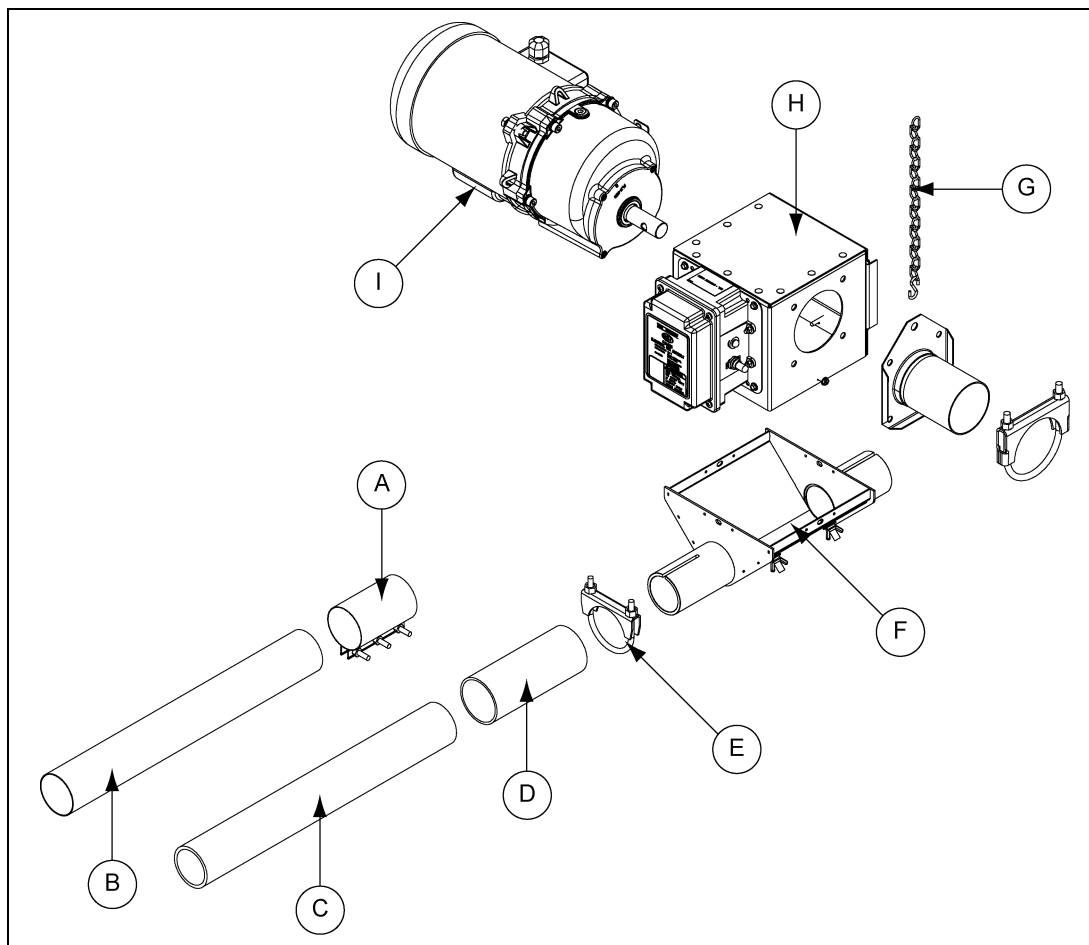

Figure 9B Fill Hopper Installation
1. Attach fill hopper to the Flex-Flo control unit using #10 x 1" self-drilling screws provided with Flex-Flo control. (See Figure 9B.)